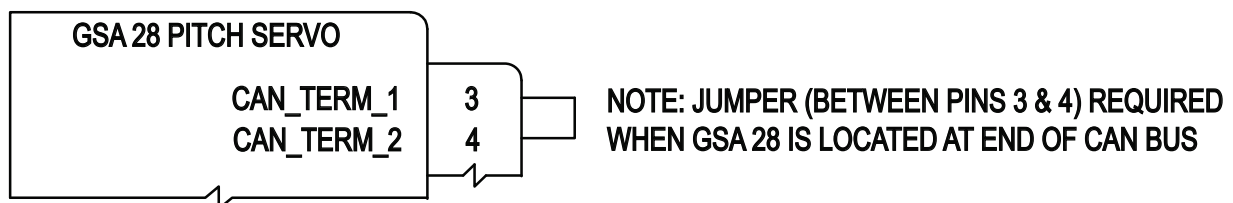

Figure 2-12 CAN Bus Termination for GSA 28
- The GMC 507, GSA 28, and GTR 20/200 contain a 120 Ω resistor inside the unit that provides termination when the two CAN TERM pins are connected together (Figure 2-12 and Figure 2-13).